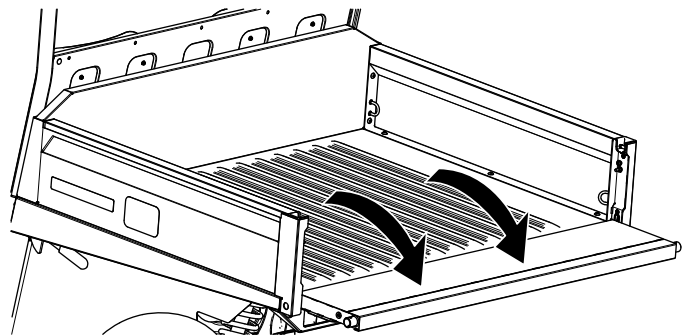

Figure 69
3. Lower the tailgate until it is flush with the bottom of the cargo bed (Figure 69).